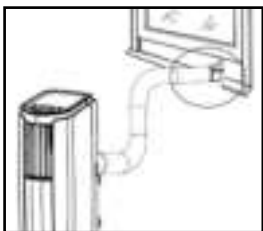
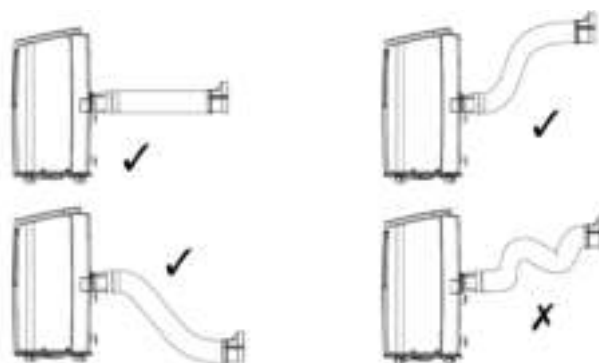

Fig. 5
Fig. 6
- 7 Pass the other end of the hose with connector B/C outside, for instance through an open window (see fig. 5). Make sure that the hose is as straight as possible (see fig. 6).